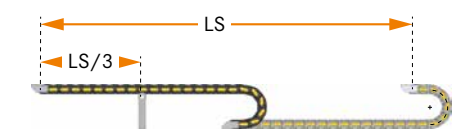

Fig. 3
Vertical separator for "T" and "L" shape (Fig. 3)
- Supported application with 1 support roller on the extended side of the stroke → $SSL = LS/3$ (single support roller should be positioned at a distance of $LS/3$ from the extended end of the stroke) (Fig. 3)